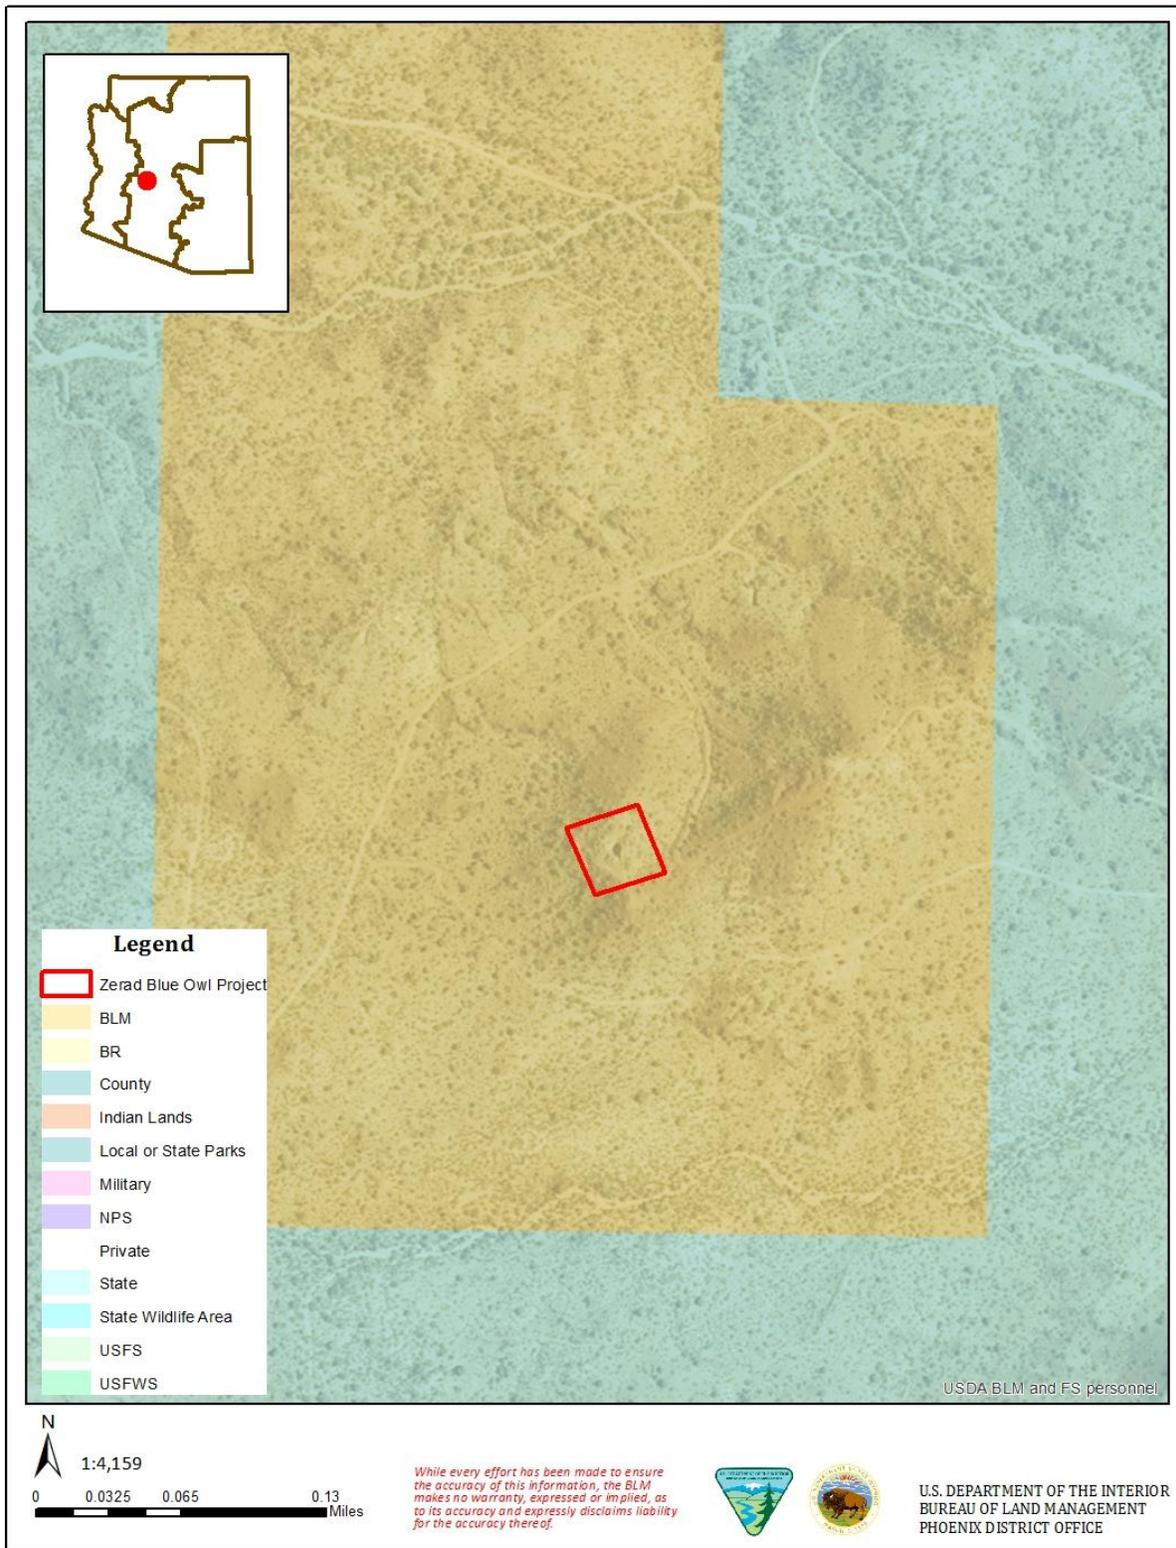

Figure 1. Map of Project Area
- **Location:** The site of the Proposed Action is northwest of Constellation Road approximately six (6) miles northeast of Wickenburg, Arizona, north of the Wickenburg Mountains (see Figure 1). The elevation of the project area is between 3000 and 3060 feet above mean sea level (AMSL), and is located on the Sam Powell Peak 7.5 Minute Quadrangle (2011).
- **Legal Description:** The Proposed Action would occur in lands in the NW $\frac{1}{4}$ SW $\frac{1}{4}$ , section 23, T. 8 N., R. 4 W., Gila & Salt River Meridian, Yavapai County, Arizona, about six (6) miles northeast of Wickenburg, Arizona as shown in Figure 1 of the Blue Owl Project Plan of Operations (case file number AZA-34937, originally received January 26, 2009).